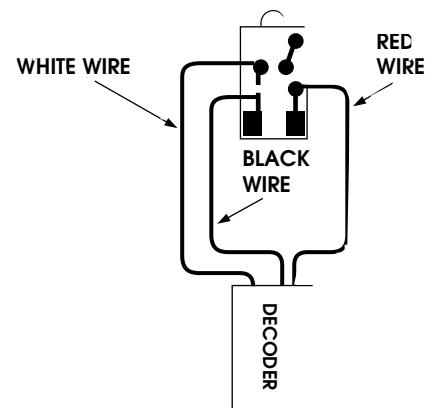

Fig. 3
- Attach the BLACK and RED wires as shown (Fig. 3). Solder WHITE wire to front light board.